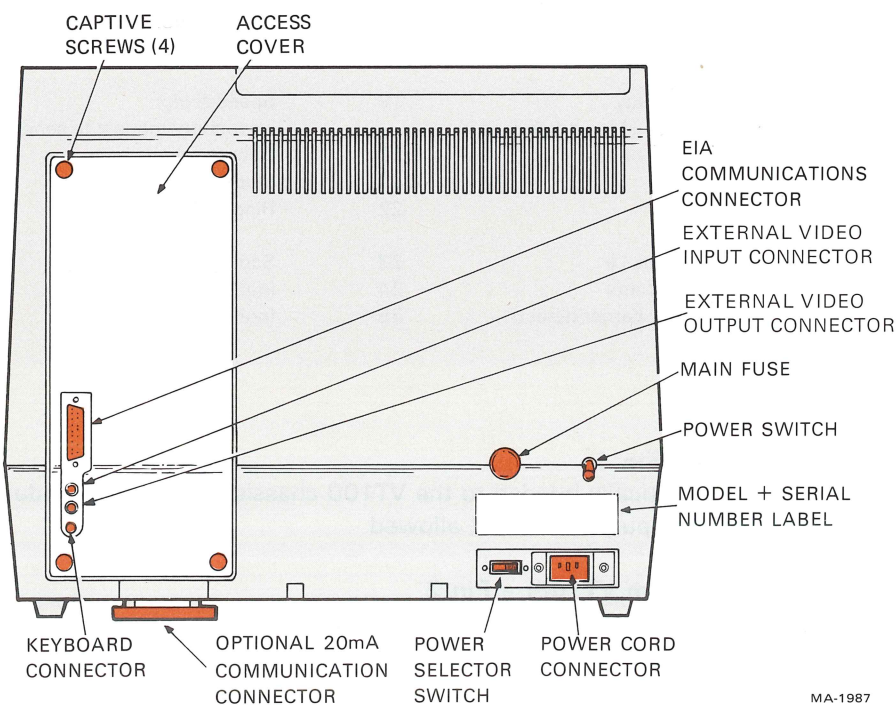

Figure 2-2
2. Place the keyboard in front of the terminal and plug the keyboard coiled cord into the keyboard receptacle located on the rear of the terminal (Figure 2-2).